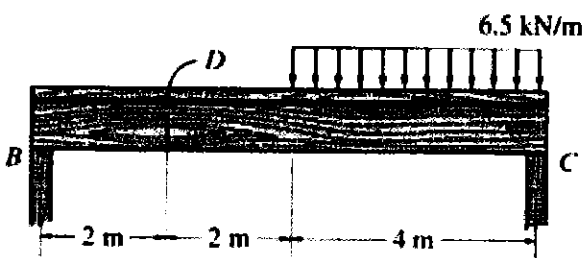

Fig. 2
2. As shown in Fig. 2, the beam is made from two boards. The supports at point  $B$  and  $C$  exert only vertical reactions on the beam. (a) Determine the shear stress in the glue necessary to hold the boards together at point  $D$ . (15%); (b) Compute the maximum shear stress in the beam. (10%)